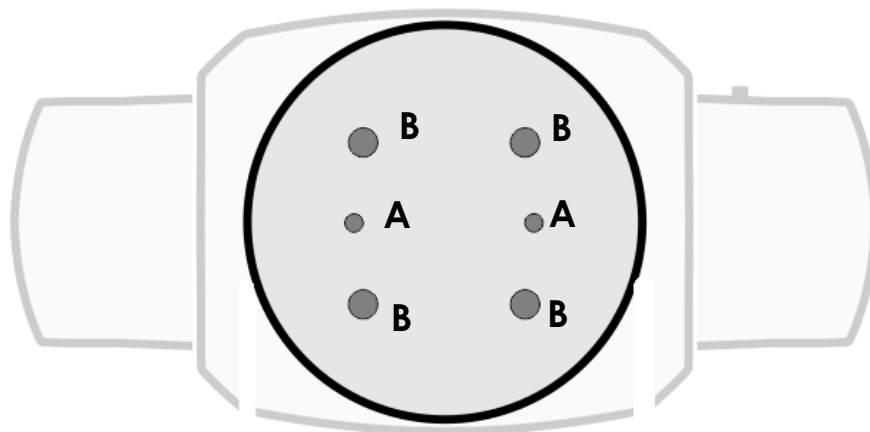

Figure 8. Mounting points in base
See Figure 8. The base of the impression E350 has two threaded holes **A** that accept M10 bolts or screws, and four mounting points **B** that accept standard camlock quarter-turn fasteners. The camlock center-to-center distance is 90 mm (3.54 in.).
2. See Figure 8. Fasten the bolts through the half-coupler clamps and into holes **A** in the base of the fixture so that the clamps are held securely.